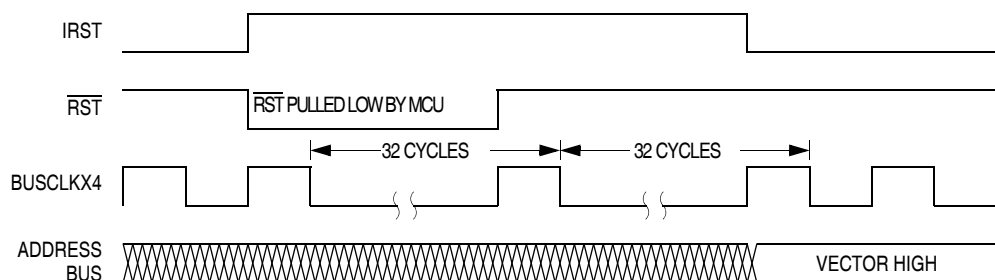
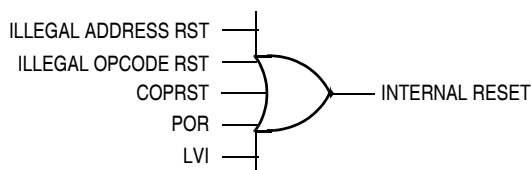

**Figure 13-4. Internal Reset Timing**
Figure 13-5. Sources of Internal Reset
*For POR and LVI resets, the SIM cycles through 4096 BUSCLKX4 cycles during which the SIM forces the  $\overline{\text{RST}}$  pin low. The internal reset signal then follows the sequence from the falling edge of  $\overline{\text{RST}}$  shown in Figure 13-4.*
All internal reset sources actively pull the  $\overline{\text{RST}}$  pin low for 32 BUSCLKX4 cycles to allow resetting of external peripherals. The internal reset signal IRST continues to be asserted for an additional 32 cycles (see Figure 13-4). An internal reset can be caused by an illegal address, illegal opcode, COP time out, LVI, or POR (see Figure 13-5).